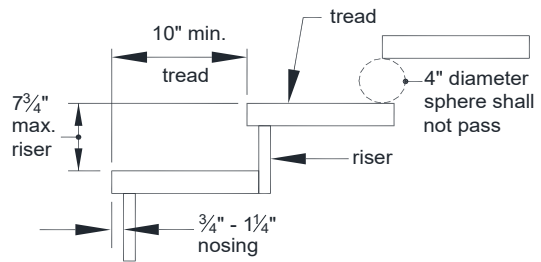

FIGURE 36: TREADS AND RISERS
- FIGURE 36. Treads, risers and nosing dimensions shall not deviate at each step by more than $\frac{3}{8}$ inches.